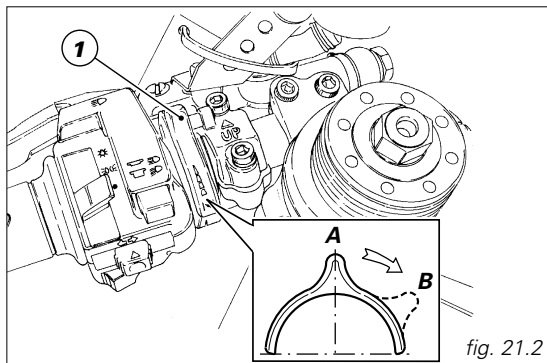

fig. 21.2
2) Move the starter lever (1) to (B) (fig. 21.2).
4) Move the starter lever (1) to its vertical position (A) (fig. 21.2).